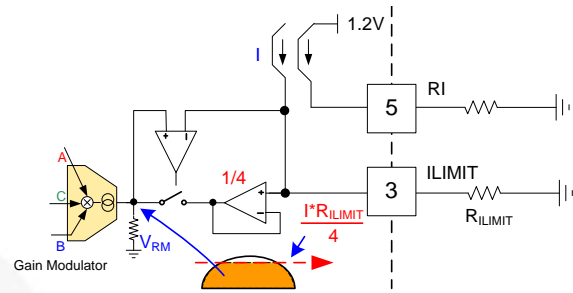
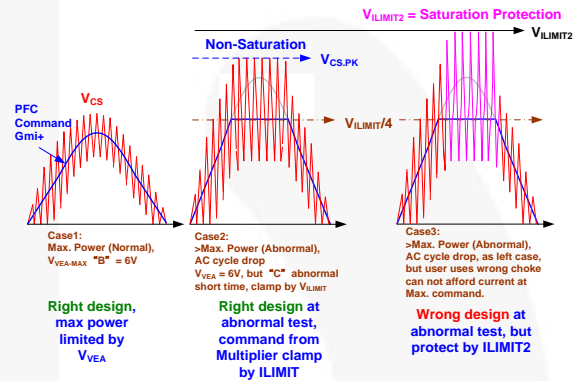

Figure 22. Current Command Limit by ILIMIT
Figure 23. ILIMIT and ILIMIT2 Setting
**Current Limit 1** (abnormal state): The current command from the gain modulator is  $k \cdot I_{AC} \cdot V_{VEA} / V_{LPK}^2$ . When in abnormal state (e.g. an AC cycle miss and return in a short period), the VLPK has a delay before returning to the original level. This delay significantly increases the current command. If the command is greater than the limit clamp level, VILIMIT, it works as shown in Figure 22 and Figure 23. The peak current of this state can be used as the maximum current designed for each channel such that inductor current is not saturated.